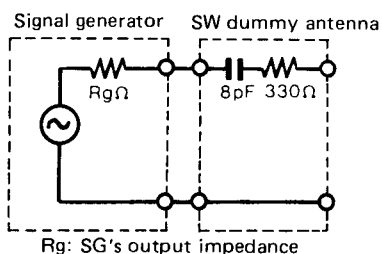

Fig. 11
2. SW dummy antenna shows Fig. 11.